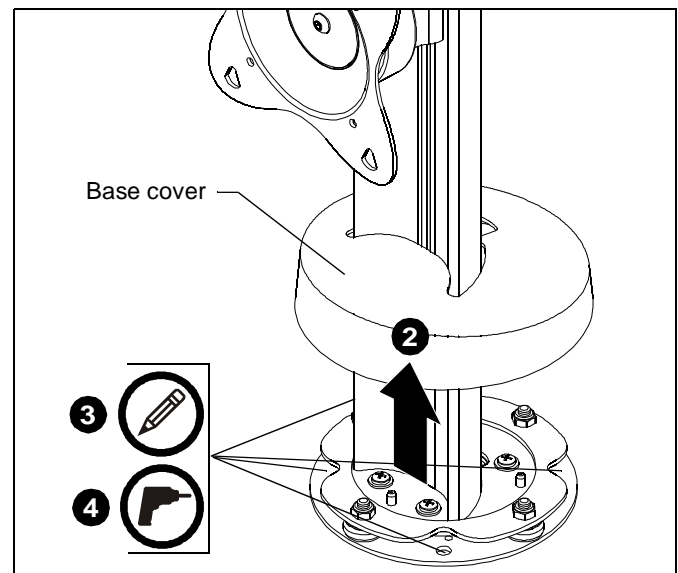

Figure 3
2. Carefully raise STS1 base cover and affix to STS1 column using a piece of tape. (See Figure 3)
3. Mark four mounting hole locations on mounting surface. (See Figure 3)
4. Drill four $5/16$ " diameter (7.9mm) holes through mounting surface at marks, and an optional $1-5/8$ " diameter (41.3mm) cable management hole. (See Figure 3)